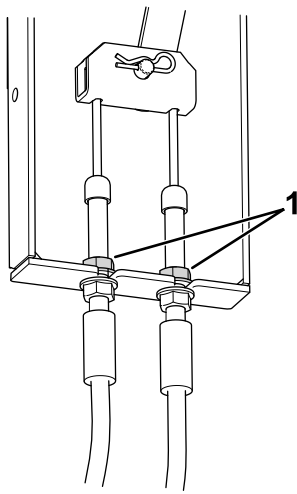

Figure 72
3. Locate the brake-cable mount (Figure 72) under the left side of the machine near the left wheel.